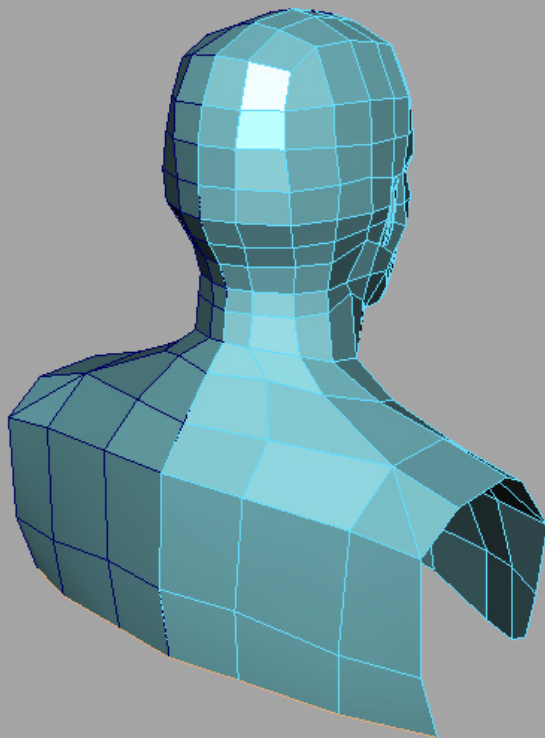

Fig 07
7. We're using the same method for the backside "Fig07".
7. In the same way, we can extrude new polygons for the upper back (Fig07).